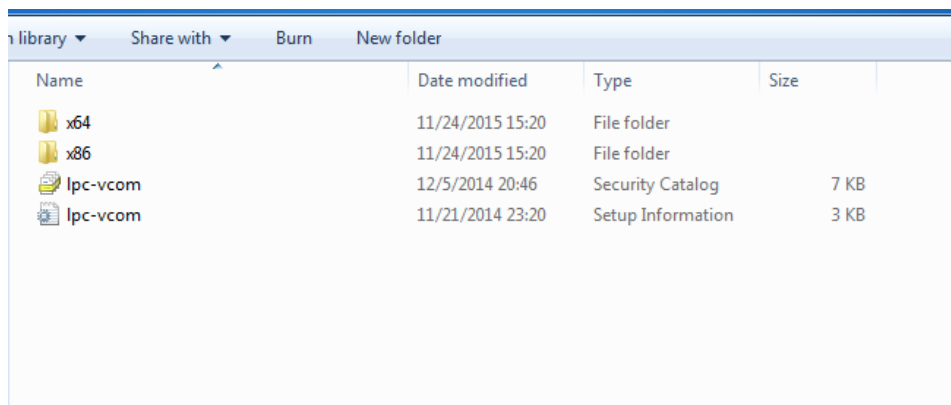

Fig. 5. Device driver folder content
- Select "x86" driver for a 32-bit machine or x64 for a 64-bit machine. If not sure, select a root folder (folder in which x64 and x86 lay inside, as in Fig. 5.)